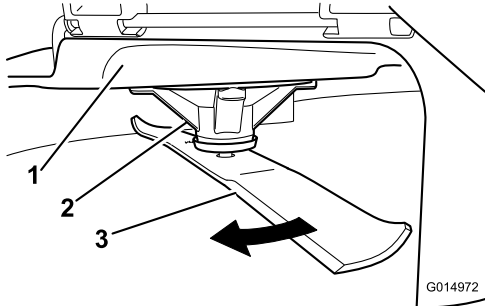

Figure 43
2. While wearing thickly padded gloves, or other adequate hand protection, slowly rotate the blade to be measure into a position that allows effective measurement of the distance between the cutting edge and the level surface the machine is on (Figure 43).